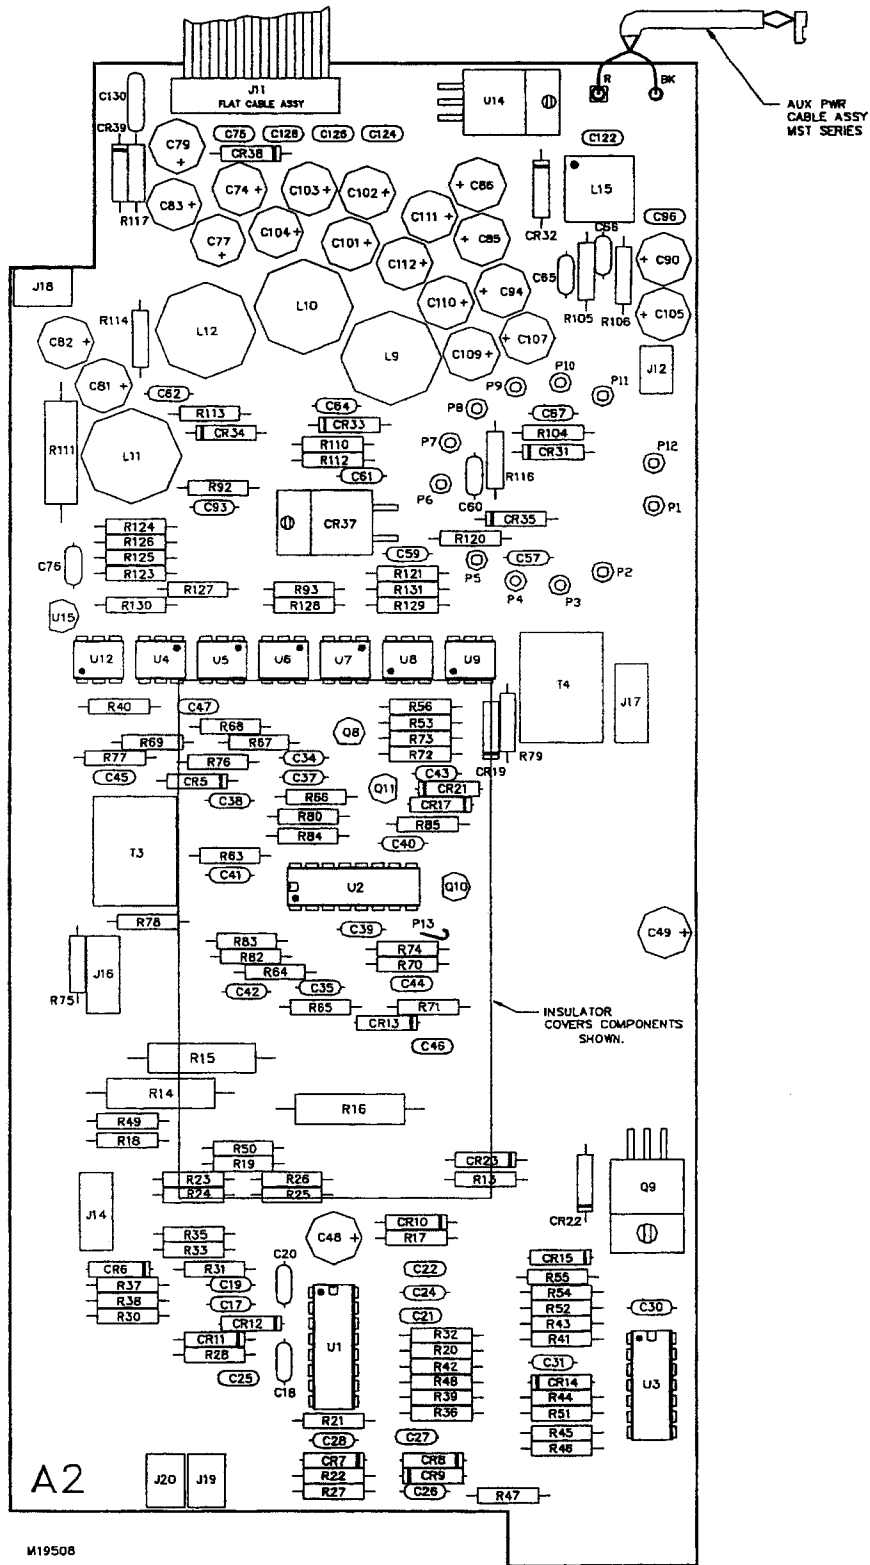

FIGURE 6-3. COMPONENT LOCATION OF MST ASSEMBLY A2
**KEPCO****REPLACEMENT PARTS LIST****MST SERIES****A2 ASSEMBLY (Figure 6-3)****CODE: 2351187**
A2 ASSEMBLY (Figure 6-3)